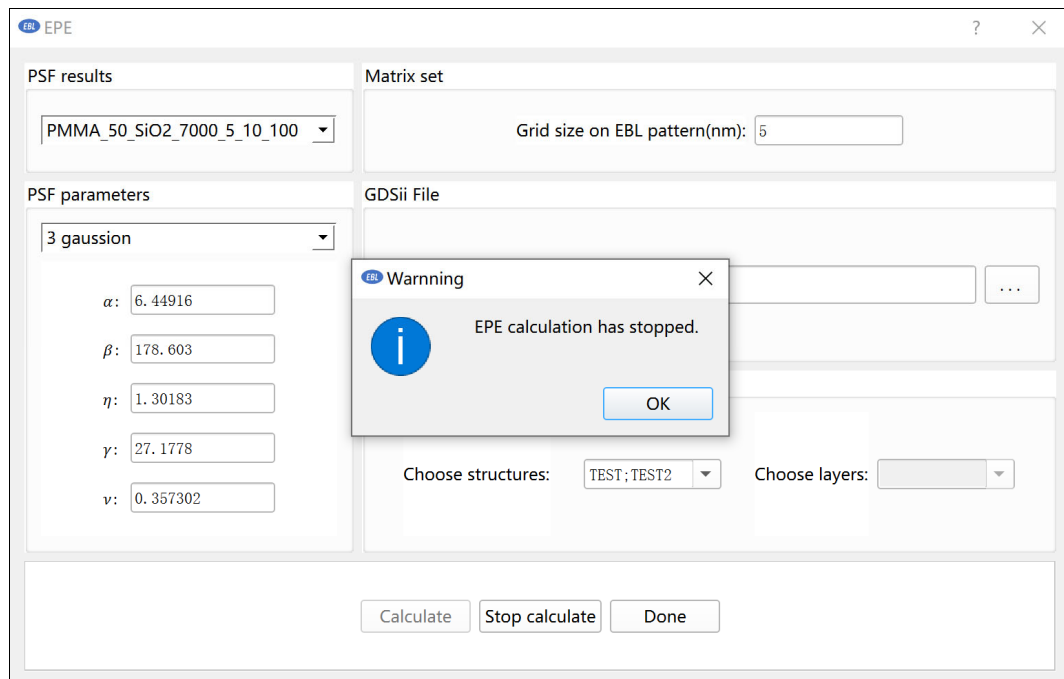
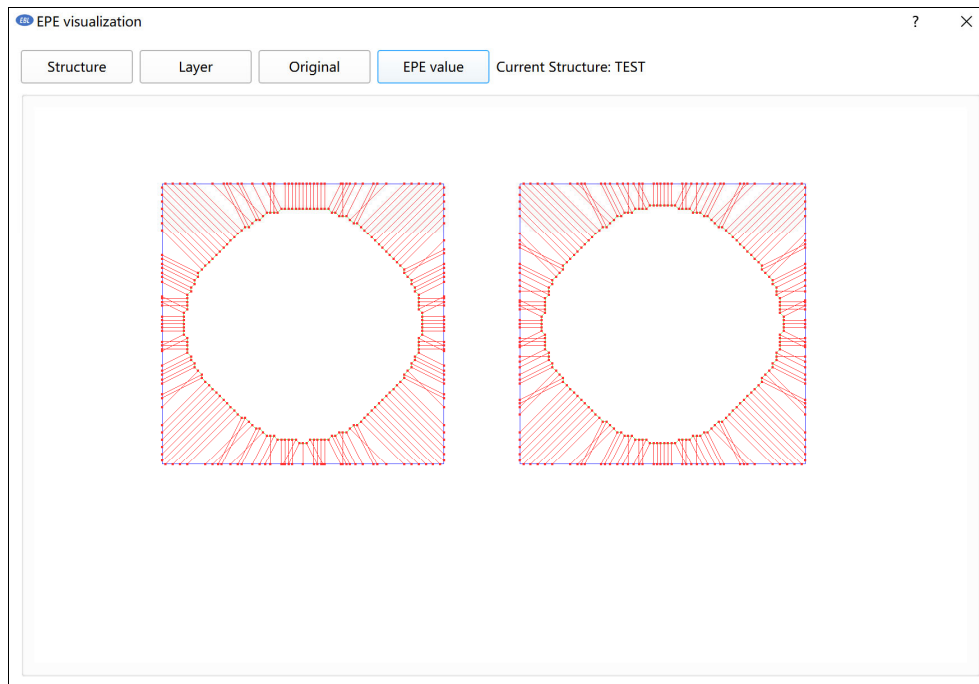

Figure 2.7.3 Stopping calculation of the EPE
Figure 2.7.4 EPE
- 7) You can click "Stop Calculation" to stop the current calculation (Figure 2.7.3).
- 8) After the EPE calculation is completed, you can click "OK" in the dialog box in Figure 2.7.3, and a dialog box showing the results of the layout EPE calculation will automatically pop up (Figure 2.7.4). (Note: the layout only contains TEXT pixels can not calculate the edge position error.)